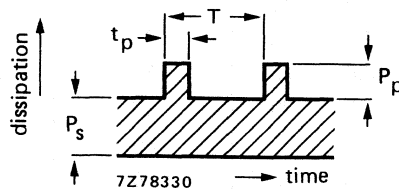

Fig. 2.
b. Pulse conditions (see Fig. 2)